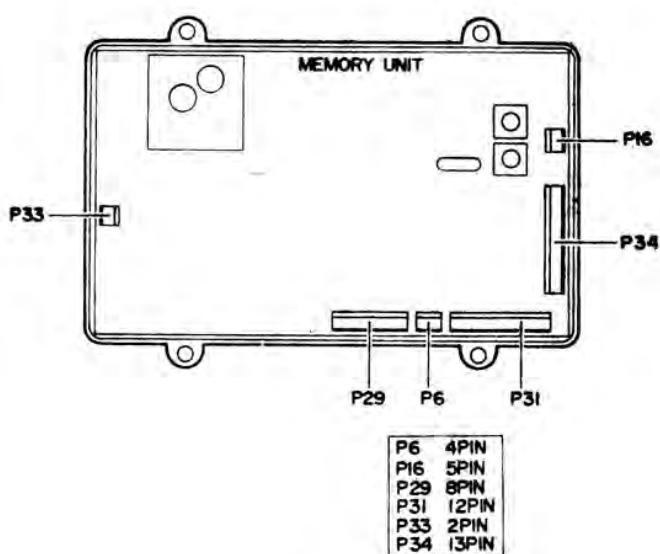

Figure 2
- (2) Connect the six plugs which are fastened to the cover to the appropriate jacks on the Memory Unit, as shown in Fig. 2.
3. Remove the two screws on the left, rear side of the cabinet, and secure the mounting angle of the FF -5 in place, as shown in Figure 2.